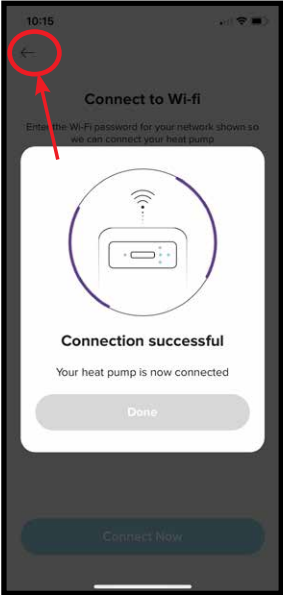

Figure 9.87
- It is important to ensure that your device is connected to the Wi-Fi network you wish to use. This must be a 2.4GHz Wi-Fi network, not a 5GHz Wi-Fi network. To continue, simply press “Connect Now”. Alternatively, should you need to cancel, you can via the back button (refer Figure 9.87).